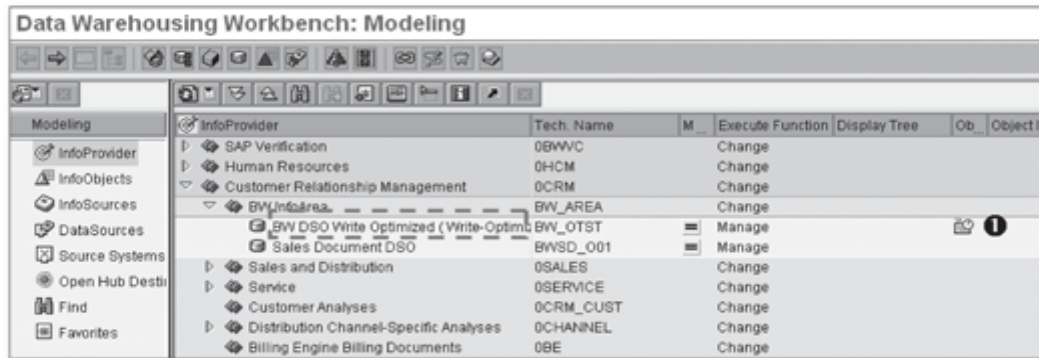

Figure 4.17 Write-Optimized DSO in DWW
Upon activation (which is accomplished by clicking the Activate icon), a write-optimized DSO is available in the DWW under InfoProvider, as shown in ❶ of Figure 4.17. As you can see, it's indicated with a special icon (📄) that appears to the right of its technical name.